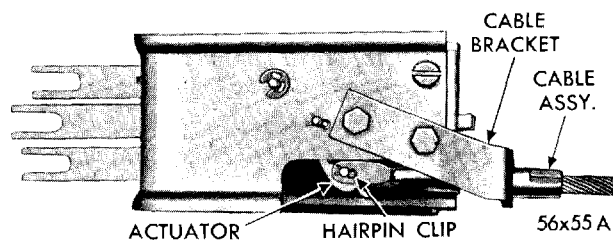

Fig. 3—Exterior View of Gearshift Control Housing (Typical)
(1) Insert end of cable on actuator and reassemble hairpin clip. Place cable bracket on control unit and install screws securely. (Figure 3).
(2) Carefully guide the unit into position from the rear of the instrument panel and install the attaching stud nuts from the front side of the instrument panel.
(3) Install lamp bulb in push button control and reinstall push buttons onto control actuator slides. Replace face plate.
(4) Connect back-up switch and push button illuminating lamp wires.